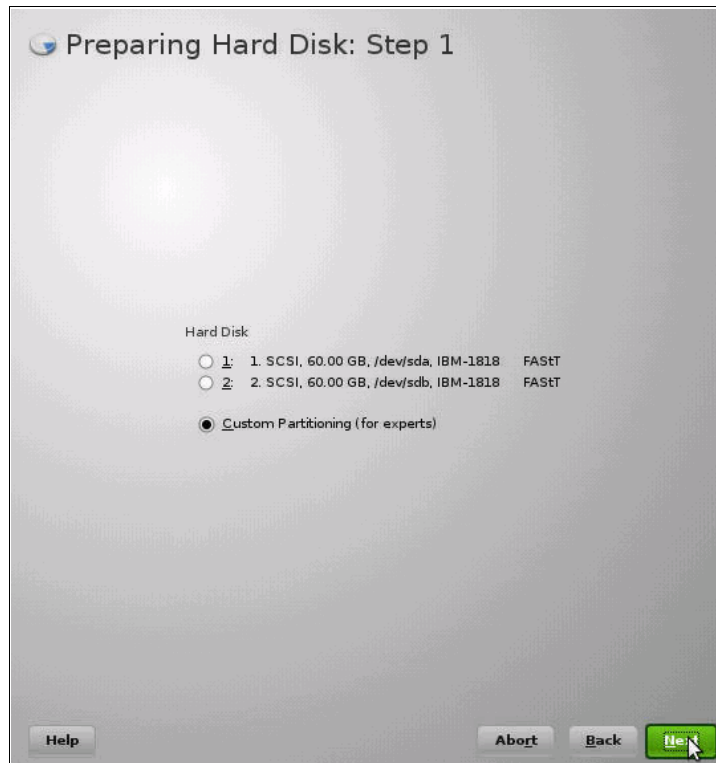

Figure 2-95 Selection of Customer Partitioning
2. On the next panel, we select **Custom Partitioning** and click **Next**, as shown in Figure 2-95.